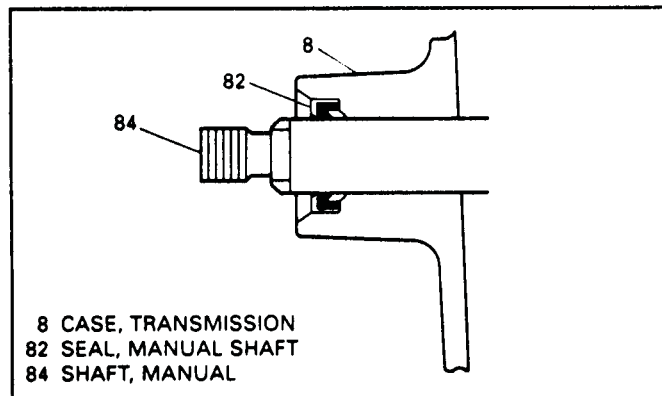

Figure 61
9. Install new manual shaft seal into the case with a 9/16" deep socket, and ensure that it is recessed as shown in Figure 61.